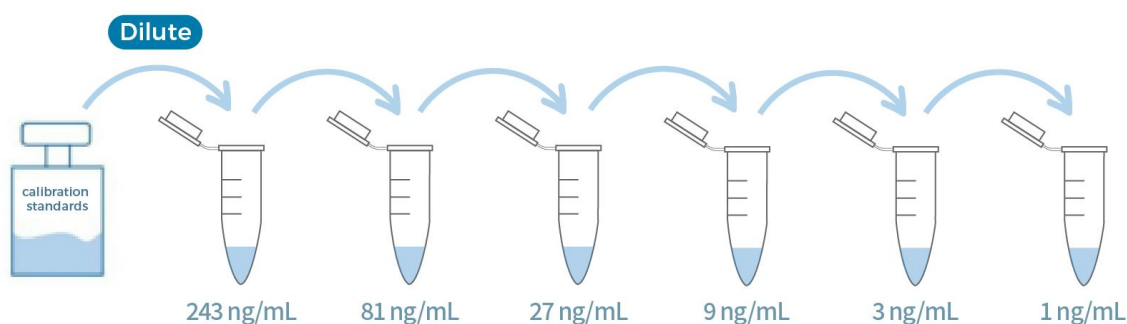

Figure 3. Graphic scheme of Vero HCP Calibration Standard Solutions
(3) Preparation of Calibration Standard Solutions
- Prepare Vero HCP Calibration Standard Solutions as indicated in Fig 3 and Table 3.